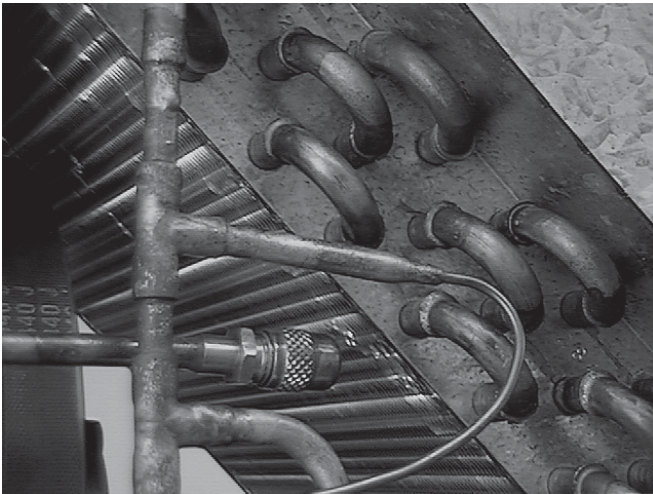

Figure 27. Pressure Switch "T"
4. Cut the plastic tie straps holding the capillary tube. Then unsweat the capillary tube from the "T". Figure 27.